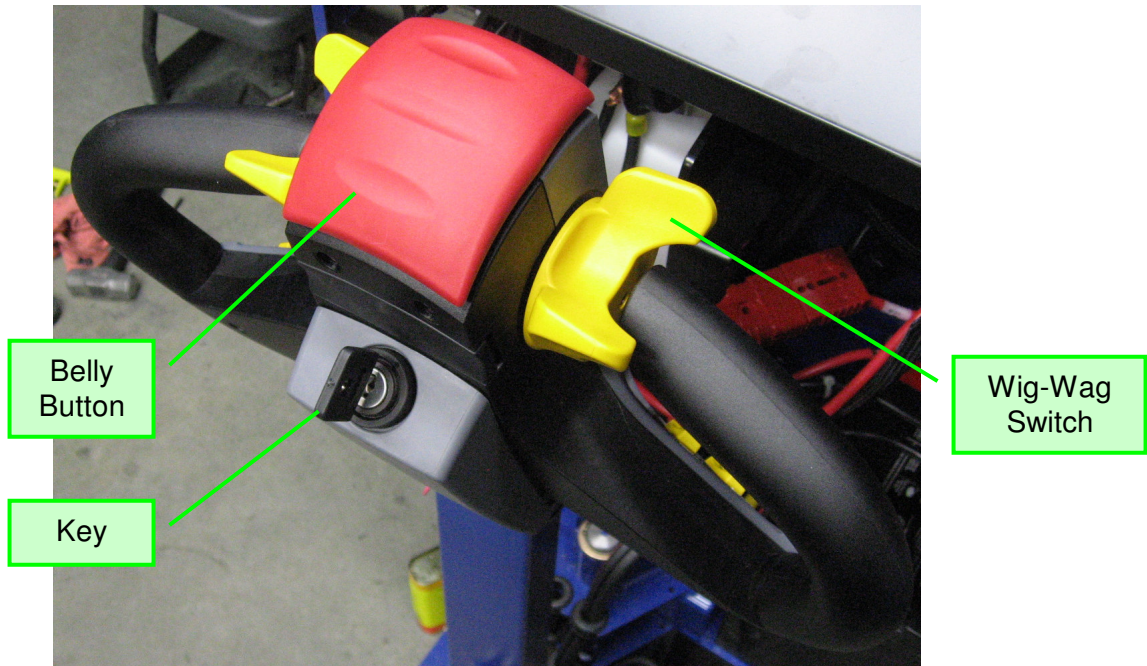

Figure 3 - Tiller head.
4. Drive by using the wig-wag switch on the tiller head to move the Roto-Lift forward and backward. (See Figure 3.)